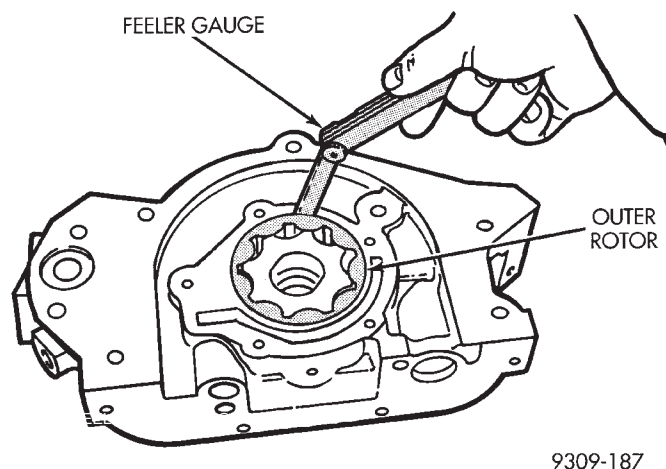

Fig. 111 Measuring Outer Rotor Clearance in Housing
(5) Slide outer rotor into body, press to one side with fingers and measure clearance between rotor and body (Fig. 111). If measurement is 0.39 mm (0.015 inch.) or more, replace body only if outer rotor is in specifications.